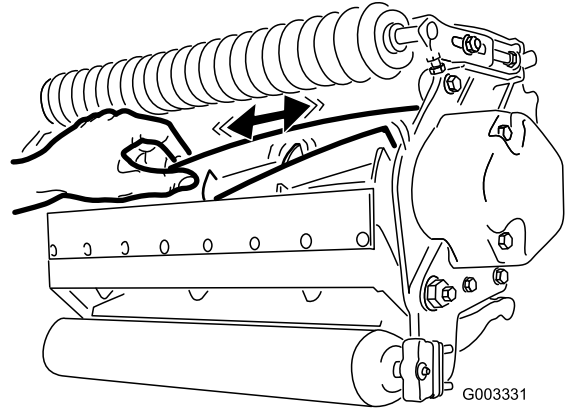

Figure 26
2. Using a rag or a thickly padded glove, hold onto the reel blade and try to move the reel assembly side to side (Figure 26).